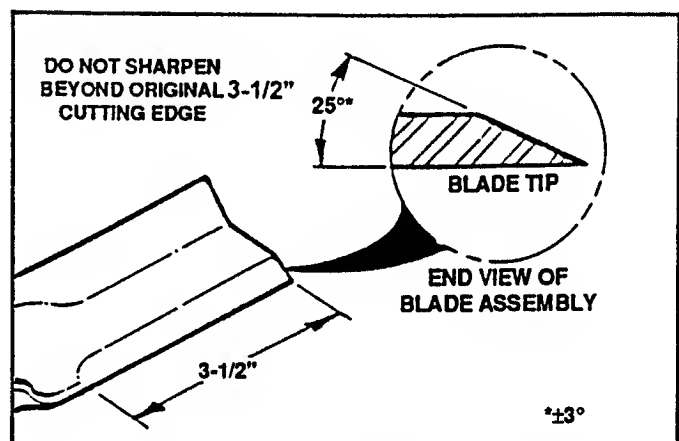

FIGURE 3.7
4. Sharpen blade on a grinding wheel at an angle of 22 to 28 degrees. The cutting surface should extend inward about 3-1/2" from the tip. See Figure 3.7.